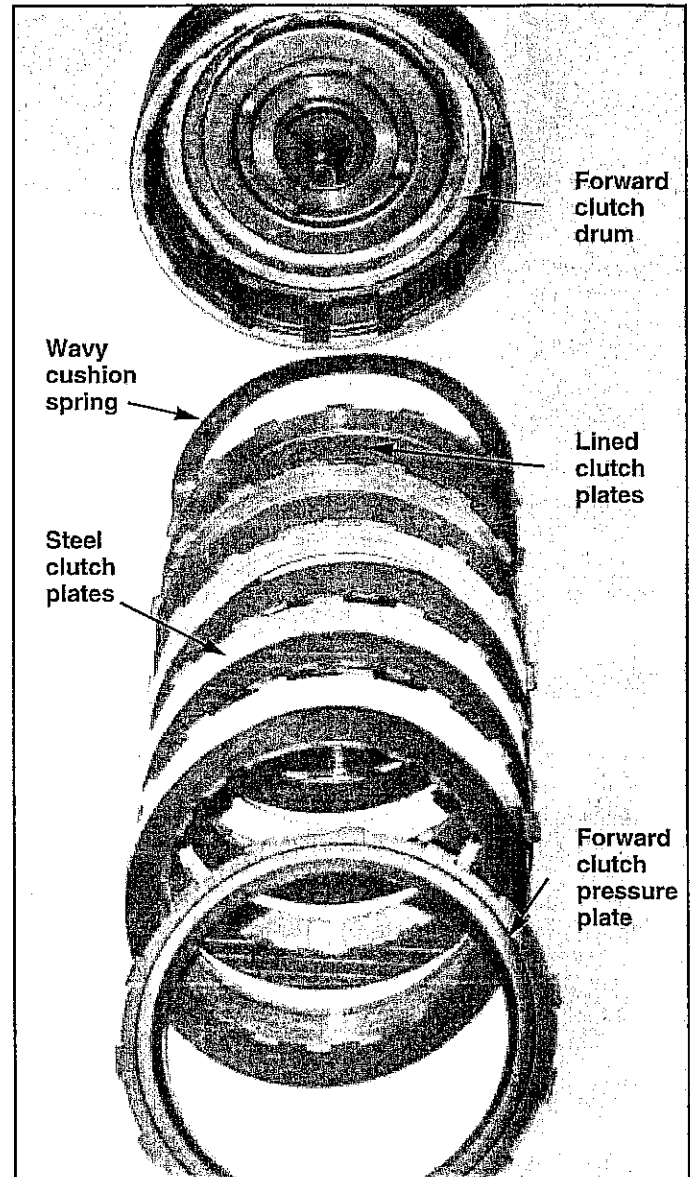

FIGURE 29
STEP 1. Remove the forward clutch drum to direct clutch drum needle bearing from the front of the forward clutch drum. Remove the snap ring from the rear of the forward clutch drum. (See Fig. 29) Remove the forward clutch pressure plate. Remove
III. Forward Clutch (Refer to Figure 29)